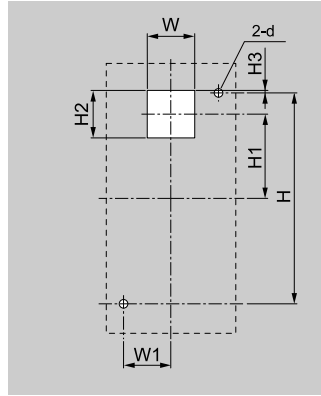

Figure 2.11 External/Face Mount Enclosure Panel Cut-Out Dimensions
1. Use the dimensions in Figure 2.11 and Table 2.9 to cut an opening in the control panel for the keypad.